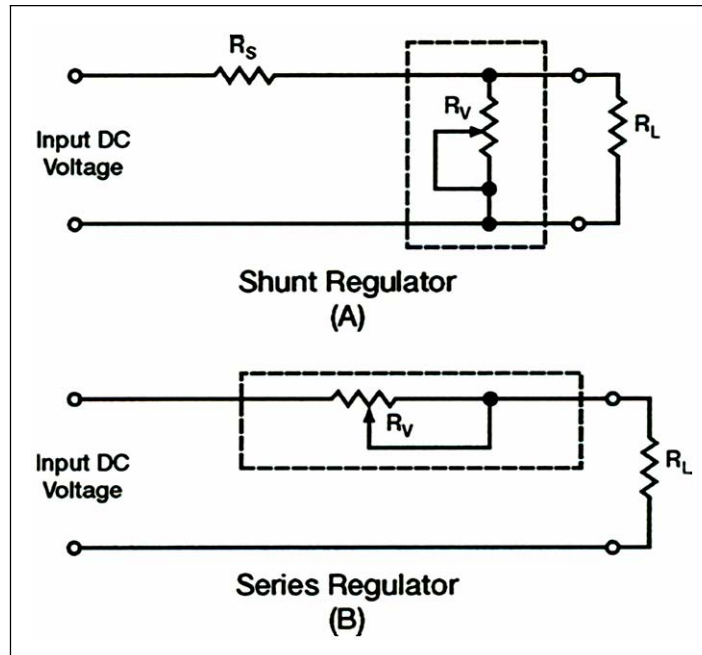
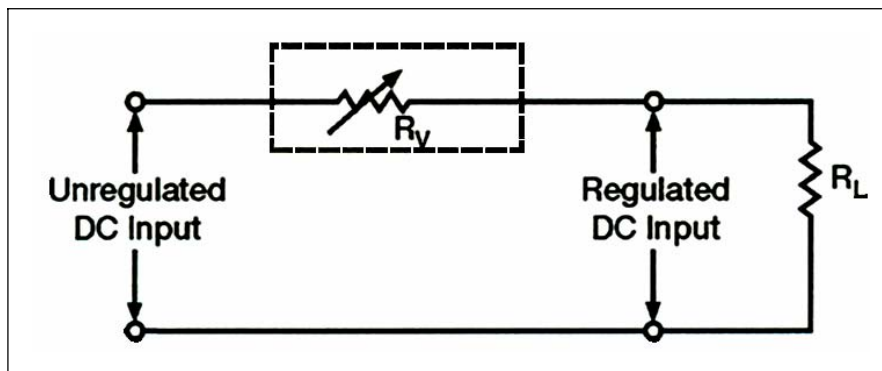

Figure 4-31. Simple Series and Shunt Voltage Regulators
Figure 4-32. Principle of Series Voltage Regulator
4-97. The two basic types of voltage regulators are classified as either SERIES or SHUNT. The type depends on the location or position of the regulating element(s) in relation to the circuit load resistance. Figure 4-31 shows these two basic types of voltage regulators. In actual practice, the circuitry of regulating devices may be quite complex. Broken lines have been used in the figure to highlight the differences between the series and shunt regulators.
4-98. The schematic drawing in Figure 4-31, view (A) is that of a shunt-type regulator. It is called a shunt-type regulator because the regulating device is connected in parallel with the load resistance. The schematic drawing in view (B) is that of a series regulator. It is called a series regulator because the regulating device is connected in series with the load resistance. Figure 4-32 shows the principle of series voltage regulation. Notice that the regulator is in series with the load resistance (R_L) and that the fixed resistor (R_s) is in series with the load resistance.